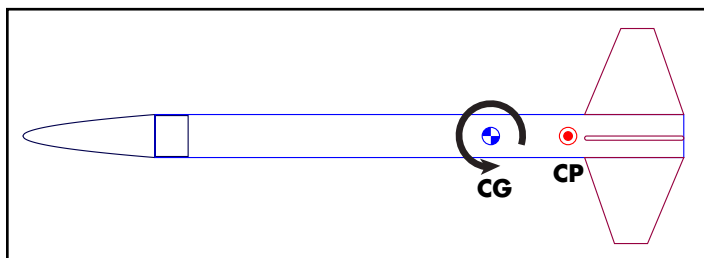

Figure 1: A “stable rocket” is one where the CG is in front of the CP. The rocket will always rotate around the CG point.
In rocketry, there is a very specific definition of a stable rocket. A stable rocket is one where the Center-of-Gravity (CG) is forward of the Center-of-Pressure (CP). Figure 1 shows a stable rocket.